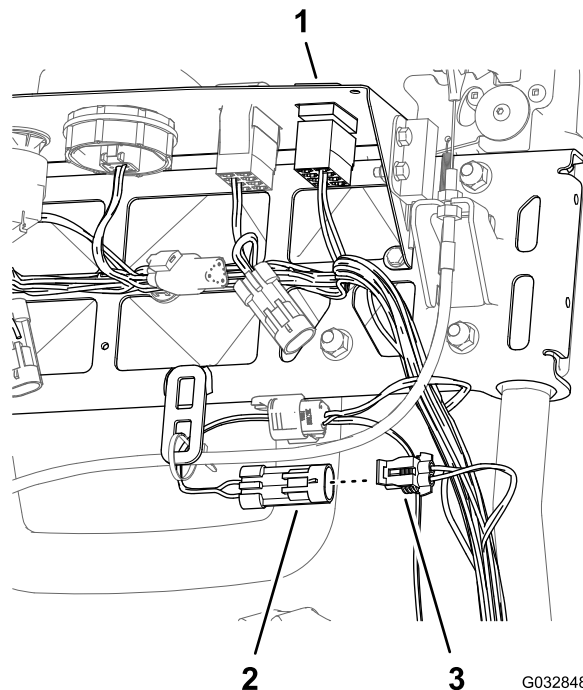

Figure 12
1. Align the 2-socket connect of the wire harness for the machine with the 2-pin connector of the light-kit harness (Figure 12).
2. Connect the 2-socket connect of the wire harness for the machine with the 2-pin connector of the light-kit harness (Figure 12).